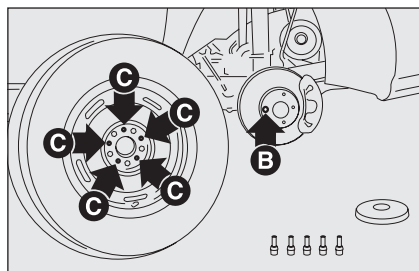

fig. 6
- ☐ Make sure the contact surfaces between spare wheel and hub are clean so that the fastening bolts will not come loose. Fit the spare wheel making one of the holes **C**-fig. 6 coincide with pin **B**;